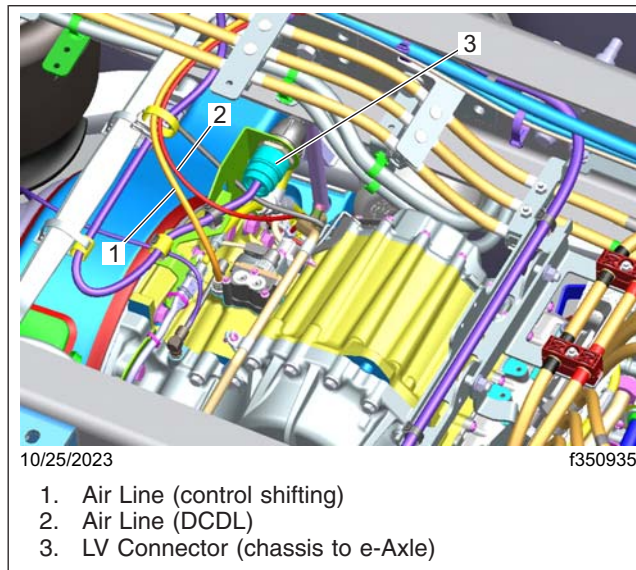

Fig. 2, Location of the LV Connector
- Disconnect the low voltage (LV) chassis harness from the e-Axle. See **Fig. 2**.
17. Disconnect the air lines from the eCarrier. See Fig. 2.
49. Connect the air lines to the eCarrier. See **Fig. 2**.
50. Connect the LV chassis harness to the e-Axle. See **Fig. 2**.